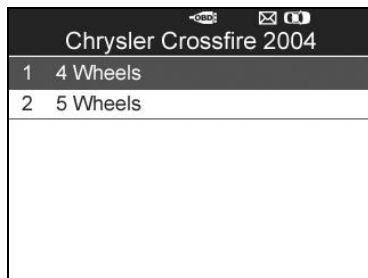

Figure 3.5
- 5) For some vehicle types an option screen will show up to let users choose between 4 Wheels test and 5 Wheels test mode. (Figure 3.5)